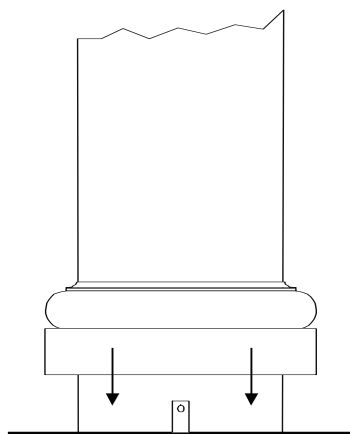

Figure 1
3. Slip one-piece cap and base onto column shaft (see figure 1). The two-piece cap and base are attached after the shaft is installed. If this column is installed where it could collect water or debris, the top of the column and cap **MUST** be flashed (covered) to prevent such collection. Use lead, copper, aluminum, galvanized, etc. flashing cut slightly larger than the cap, and fold the edges down over the cap after step 5. It is not permissible at any time to fill the interior of the column shaft with sand, concrete or any other material.